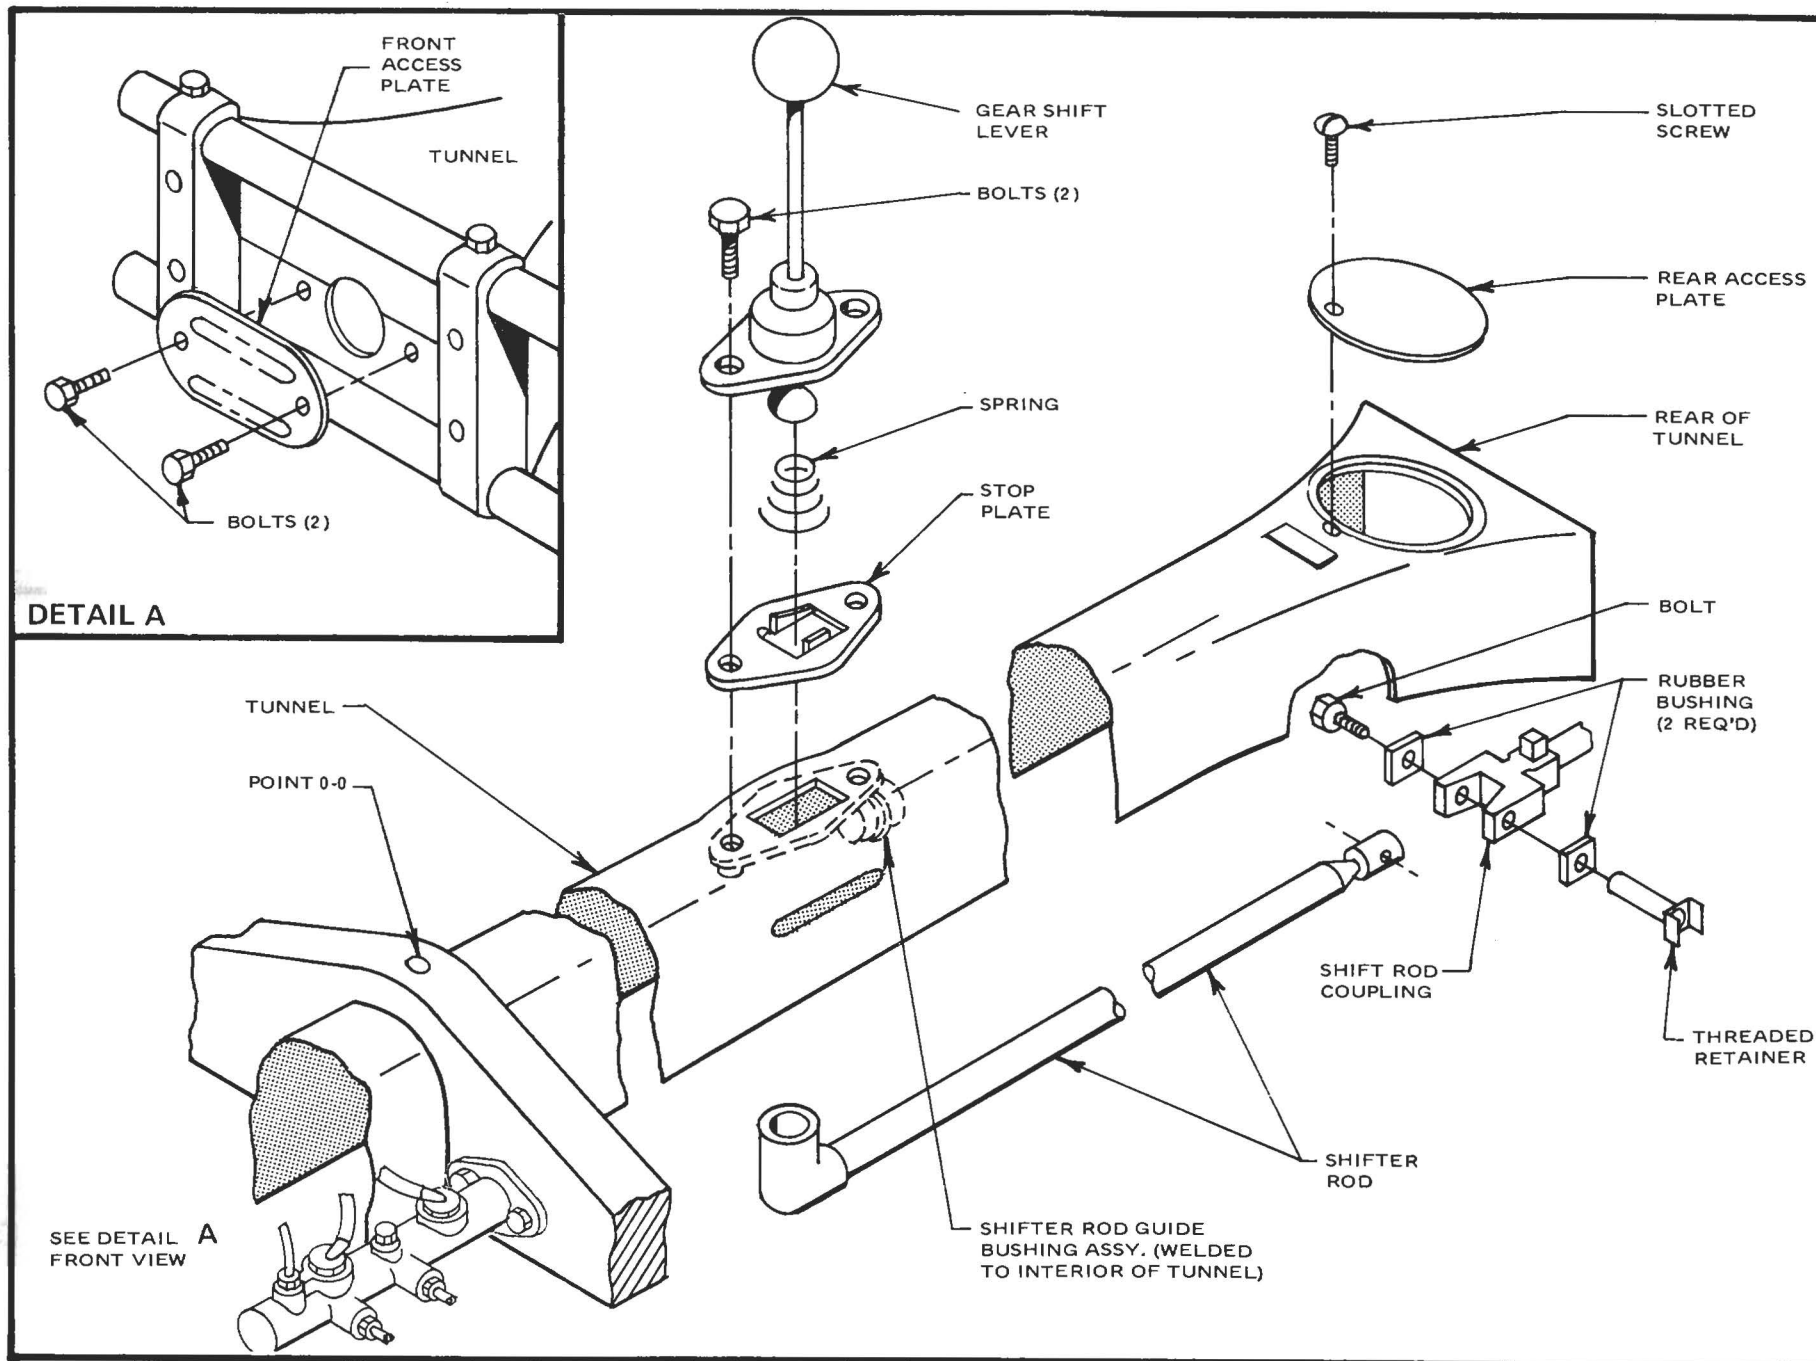
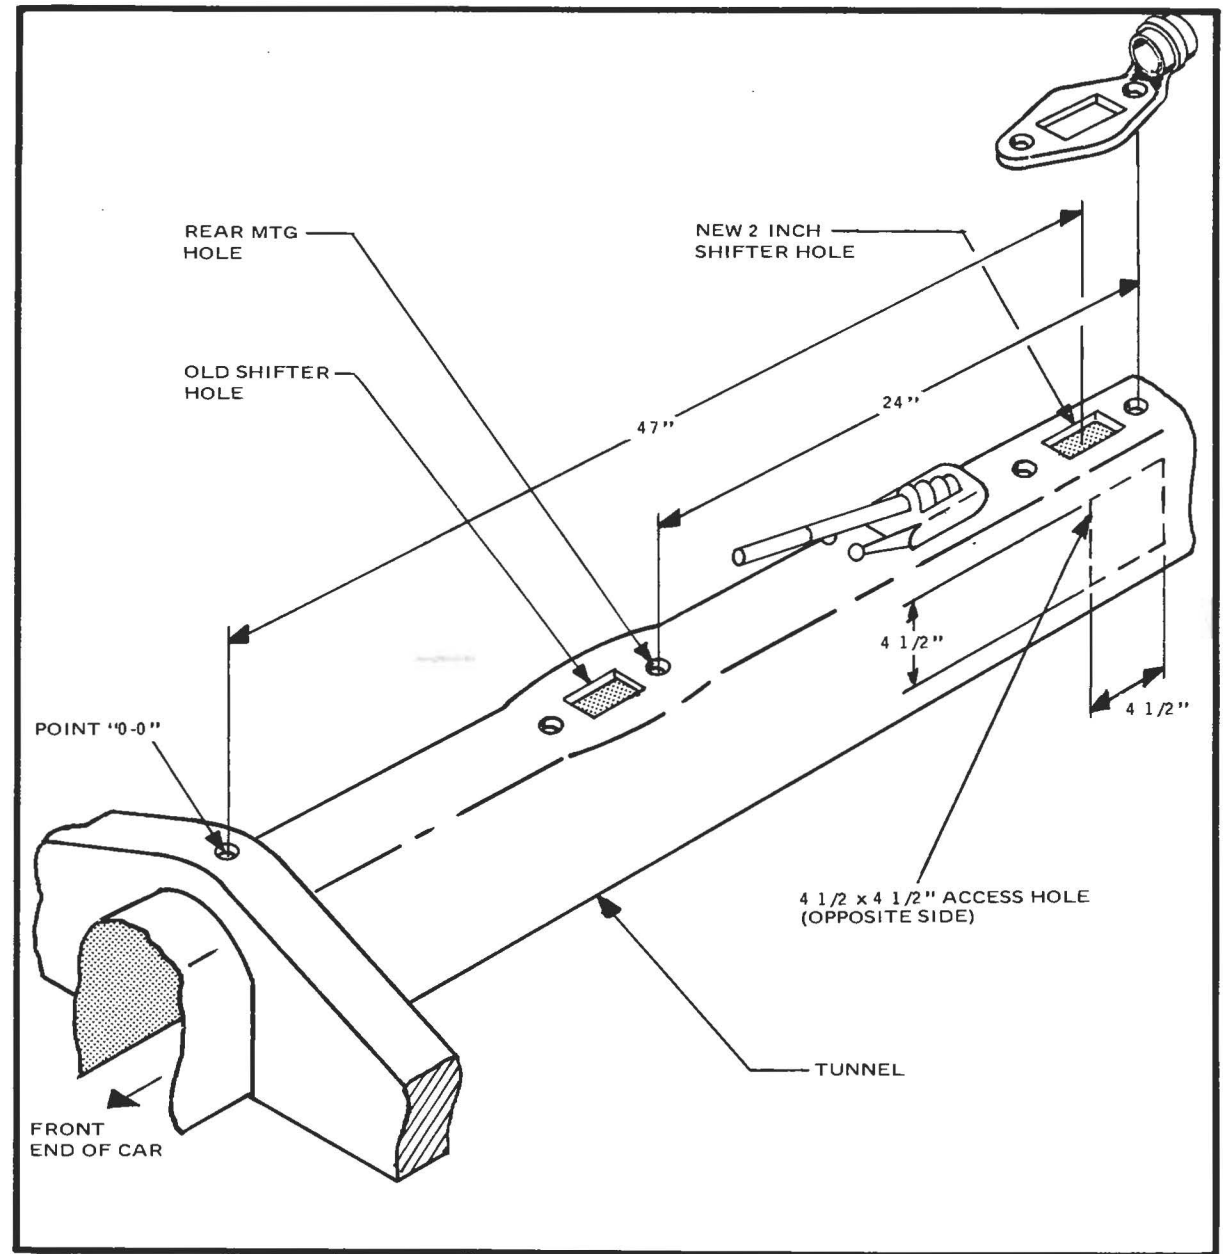

Figure 10
Figure 11
- ☐ Remove the two bolts that hold the gear shift lever onto the "tunnel". (Refer to Figure 10) Make sure that you note the way the stop plate came out and do not turn it over or reverse it. Save all bolts. The shifter rod is removed from the front of the tunnel. Next, remove the front access plate mounted by two bolts to the tunnel just in back of the front axle. Disconnect the transmission end of the shifter rod under the rear access plate from the transmission at the rear end of the tunnel. Then you can pull the shifter rod out through the front access hole working it along through the old shifter hole with a pair of pliers. Remove the shift rod guide bushing assembly. (This piece is spot welded to the tunnel.) To facilitate construction we recommend purchasing a new unit from VW (Part No. 117-01255B and No. 111701259A). Measure 24" towards the back of the car from the rear mounting hole of the old shifter point. Mark this location with a grease pencil. Using the bushing assembly as a template, lay it over the location with the grease mark visible through the rear hole. Mark the other mounting hole and the outline of the center hole. Drill a 2" hole in the center of the rectangular outline. Use caution in drilling as there are cables underneath (Figure 11)